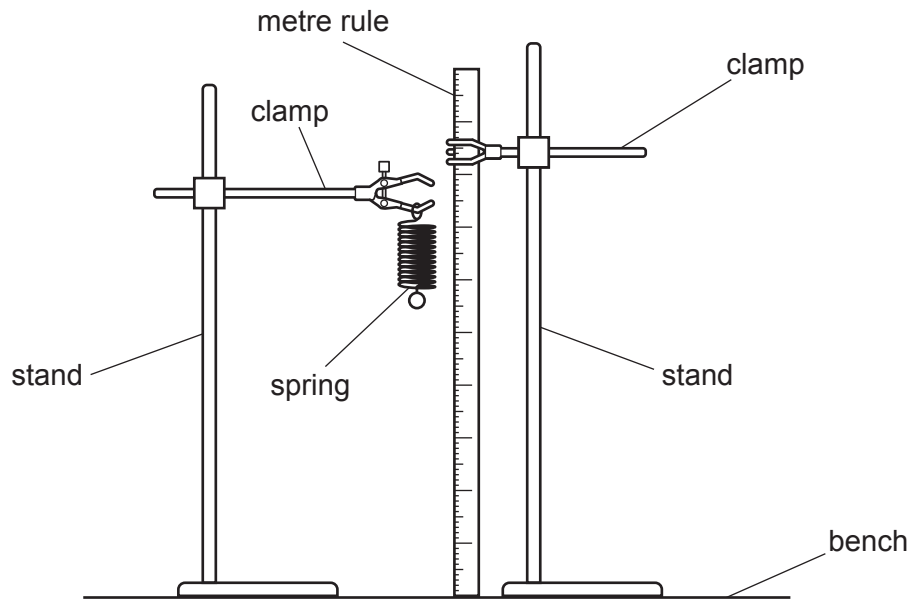

Fig. 5.1 (not to scale)
The spring and the metre rule have been set up for you as shown in Fig. 5.1.
- (iii) Use a double-headed arrow ($\longleftrightarrow$) on Fig. 5.1 to show clearly the length l_0 . [1]